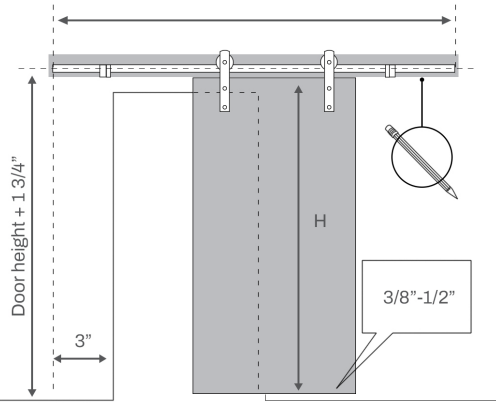

FIGURE 11
- Measure 3" (76mm) over from the edge of the opening and mark this position with a pencil (see FIGURE 11).